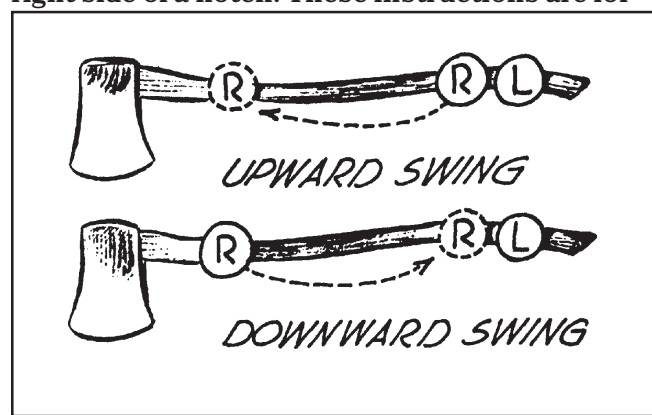

Figure 76—The proper ax hold for a right-handed person (drawing by Frederic H. Kock).
**Grip**—On an ax that is hung properly to fit you, place your left hand about 1 or 2 inches from the butt end of the handle or helve. Place your right hand about three-fourths of the way up the handle. This is the proper hold for a right-handed person (Figure 76).